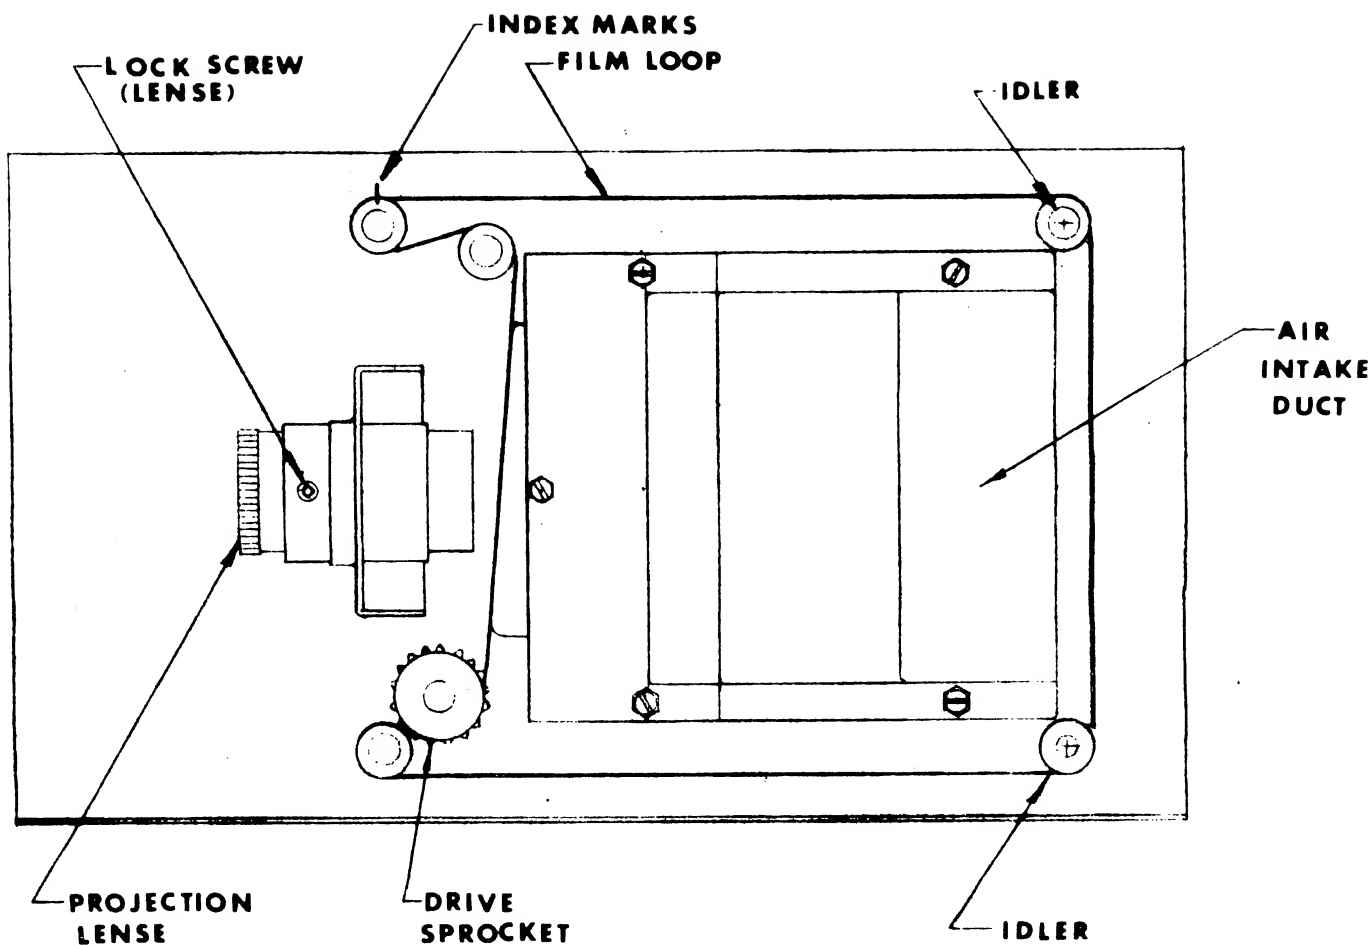

Fig. 1
3. Loosen set screw on projection lense mount. (See Figure 1)
3. Images can be moved on screen manually by rotating brass gear in projector drive motor (do not attempt to rotate sprocket shaft or wiper shaft either by hand or with tools). Adjust zero position aircraft so that nose of aircraft is in line with darts on screen as shown in Figure 4. Some projectors will have a painted index mark on the film that will line up with a mark on upper forward Idler Bracket or Idler Post (see Figure 1).